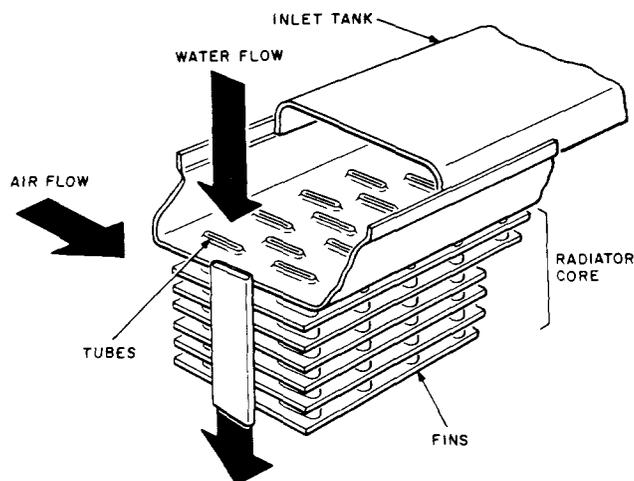

Fig. 3—Typical Radiator Construction
2.03 The radiator consists of the core, which is a series of tubes surrounded by fins and air passages, and inlet and outlet tanks (Fig. 3). In most radiators the hot coolant enters the inlet tank at the top of the radiator and is cooled as it flows downward through the radiator core. The coolant is drawn from the outlet tank by the water pump for recirculation. On some radiators the inlet and outlet tanks are at the sides of the core, and the coolant is circulated across the core. These crossflow radiators are equipped with an expansion tank, which is usually located above or adjacent to the radiator, to allow for coolant expansion during warm-up and to assure that the radiator tubes are always full of liquid. It is important that the coolant level in crossflow radiators be maintained according to manufacturer's recommendations to avoid air entrapment in the radiator tubes.